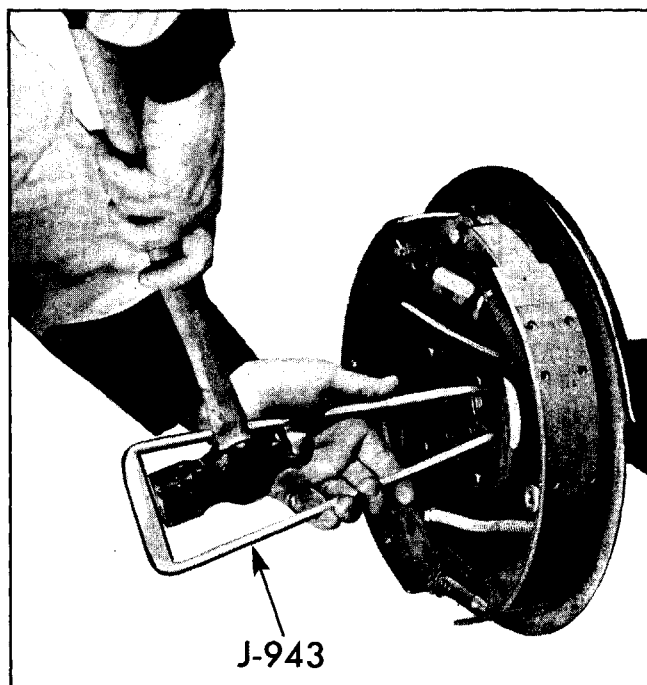

Fig. 4-8 Removing Oil Seal with Remover J-943
6. Remove oil seal using Remover J-943 (Fig. 4-8).